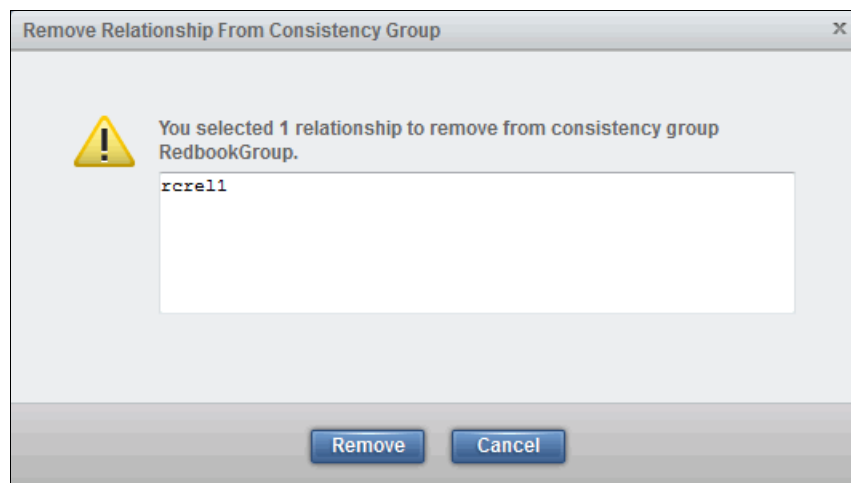

Figure 10-144 Confirm the relationships to remove from the Remote Copy consistency group
2. A warning displays, as shown in Figure 10-144. Make sure that the Remote Copy relationships that are shown in the field are the ones that you want to remove from the consistency group. Click **Remove** to proceed.